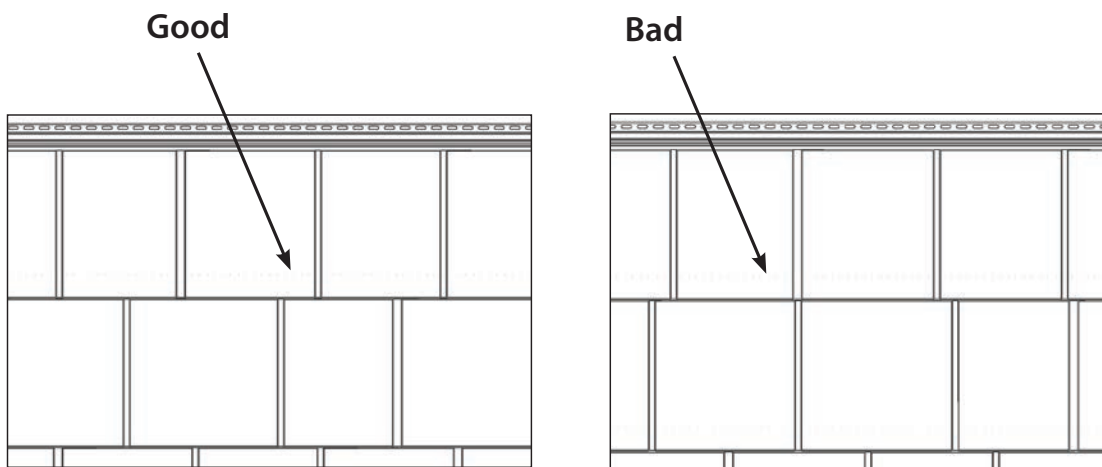

FIGURE 10
- The first panel should be installed on the lower left side of the wall, locked securely into the starter strip (**FIG 10**).